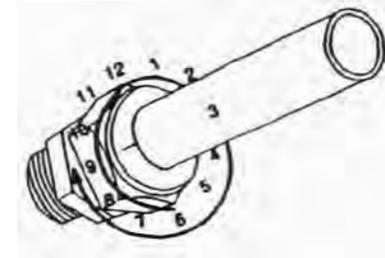

Figure 6-6: Clock Positions
3. Referring to Figure 6-6, scribe or mark the nut at the 6 o'clock position.